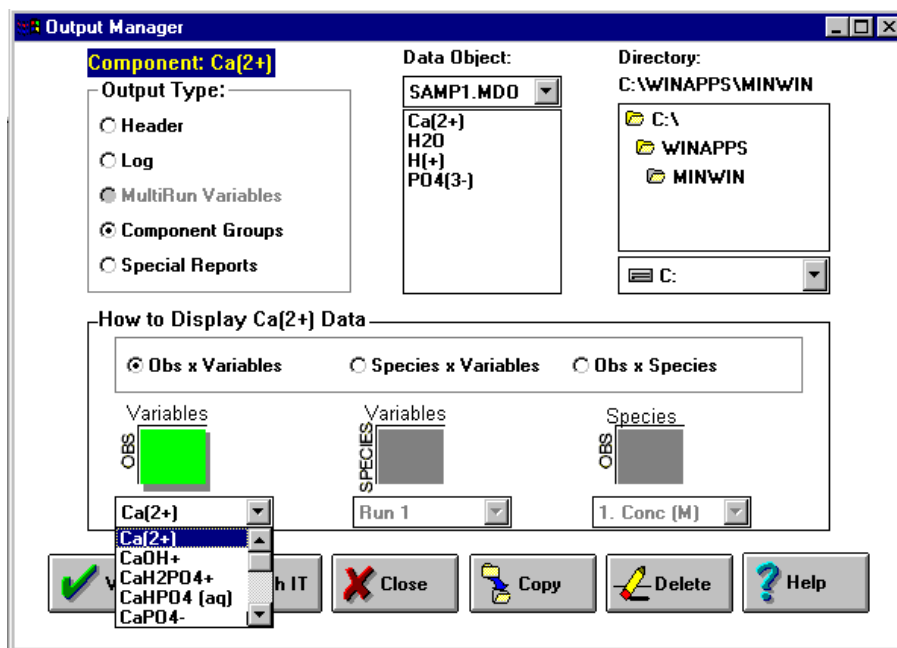

Figure 6. Selecting a Species to View in the Output Manager Window
The **Component Groups** selection is associated with two different areas in the *Output Manager*. First, you must select which component you want to view. This selection is accomplished by clicking off the component from the list located in the middle of the screen, right below the *Data Object*. Next, you must select the perspective from which you wish to view the data. In the low middle portion of the screen is a group box that contains three options for viewing the data. This box will only become active when the component groups option has been selected. Each option has a combo box button (accessed with the down arrow) for more options. The three options are: (i) *Obs. × Variables*: gives the concentration, LogC, LogK, % total and stoichiometry for any one species. For instance, if you select Ca^{2+} in the previous step, you can use the corresponding combo box to view Ca^{2+} , CaOH^+ , $\text{CaH}_2\text{PO}_4^+$, CaHPO_4 (aq), or CaPO_4^- . This process is illustrated in Figure 6; (ii) *Species × Variables*: gives the concentration, LogC, LogK, % total and stoichiometry for all species in which the selected component appears. You'll need to tell the *Output Manager* what **Run** you want to view using the corresponding combo box; (iii) *Obs. × Species*: gives one of the following information for all species associated with the selected component: Conc. (M), LogC, LogK, or %Total. Similarly, you can use the corresponding combo box to select which information you want to view.